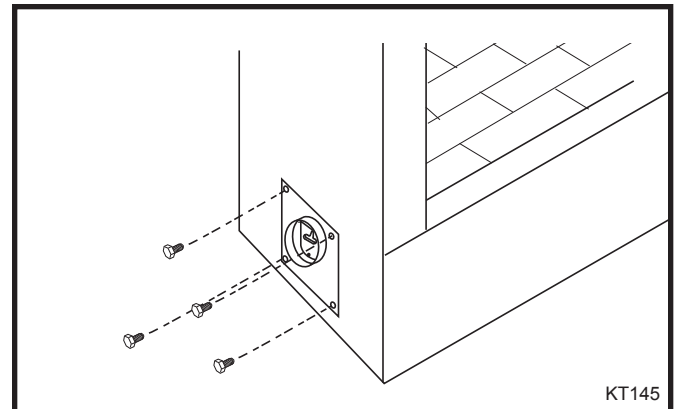

Fig. 9 Secure the inlet collar assembly.
2. Secure the inlet collar assembly to the outer casing with four screws (not provided). (Fig. 9)
3. Slide the duct over the collar and attach the duct to the collar using the plastic tie straps or three (3) screws (screws not provided). Continue attaching the ducting together using three (3) screws at each joint until you have installed sufficient duct to arrive at your duct termination locations.